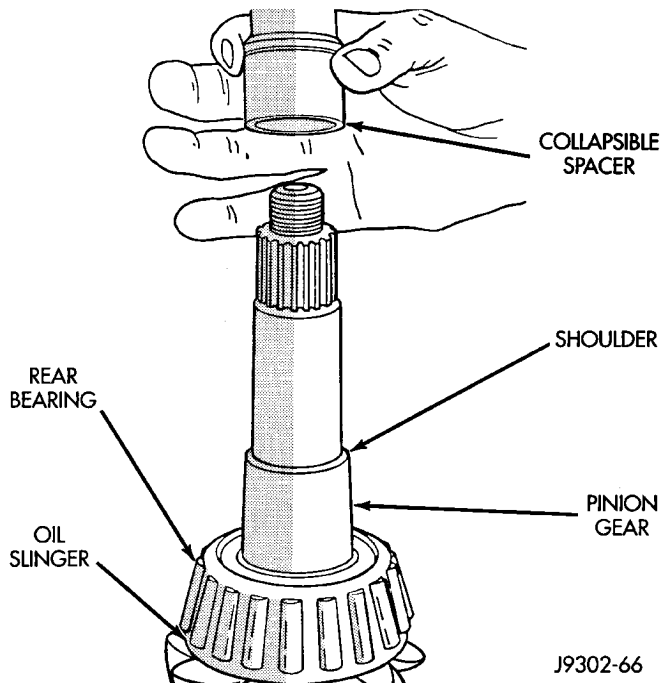

Fig. 47 Collapsible Preload Spacer
(6) Install a new collapsible preload spacer on pinion shaft (Fig. 47).
(7) Install pinion gear in housing.